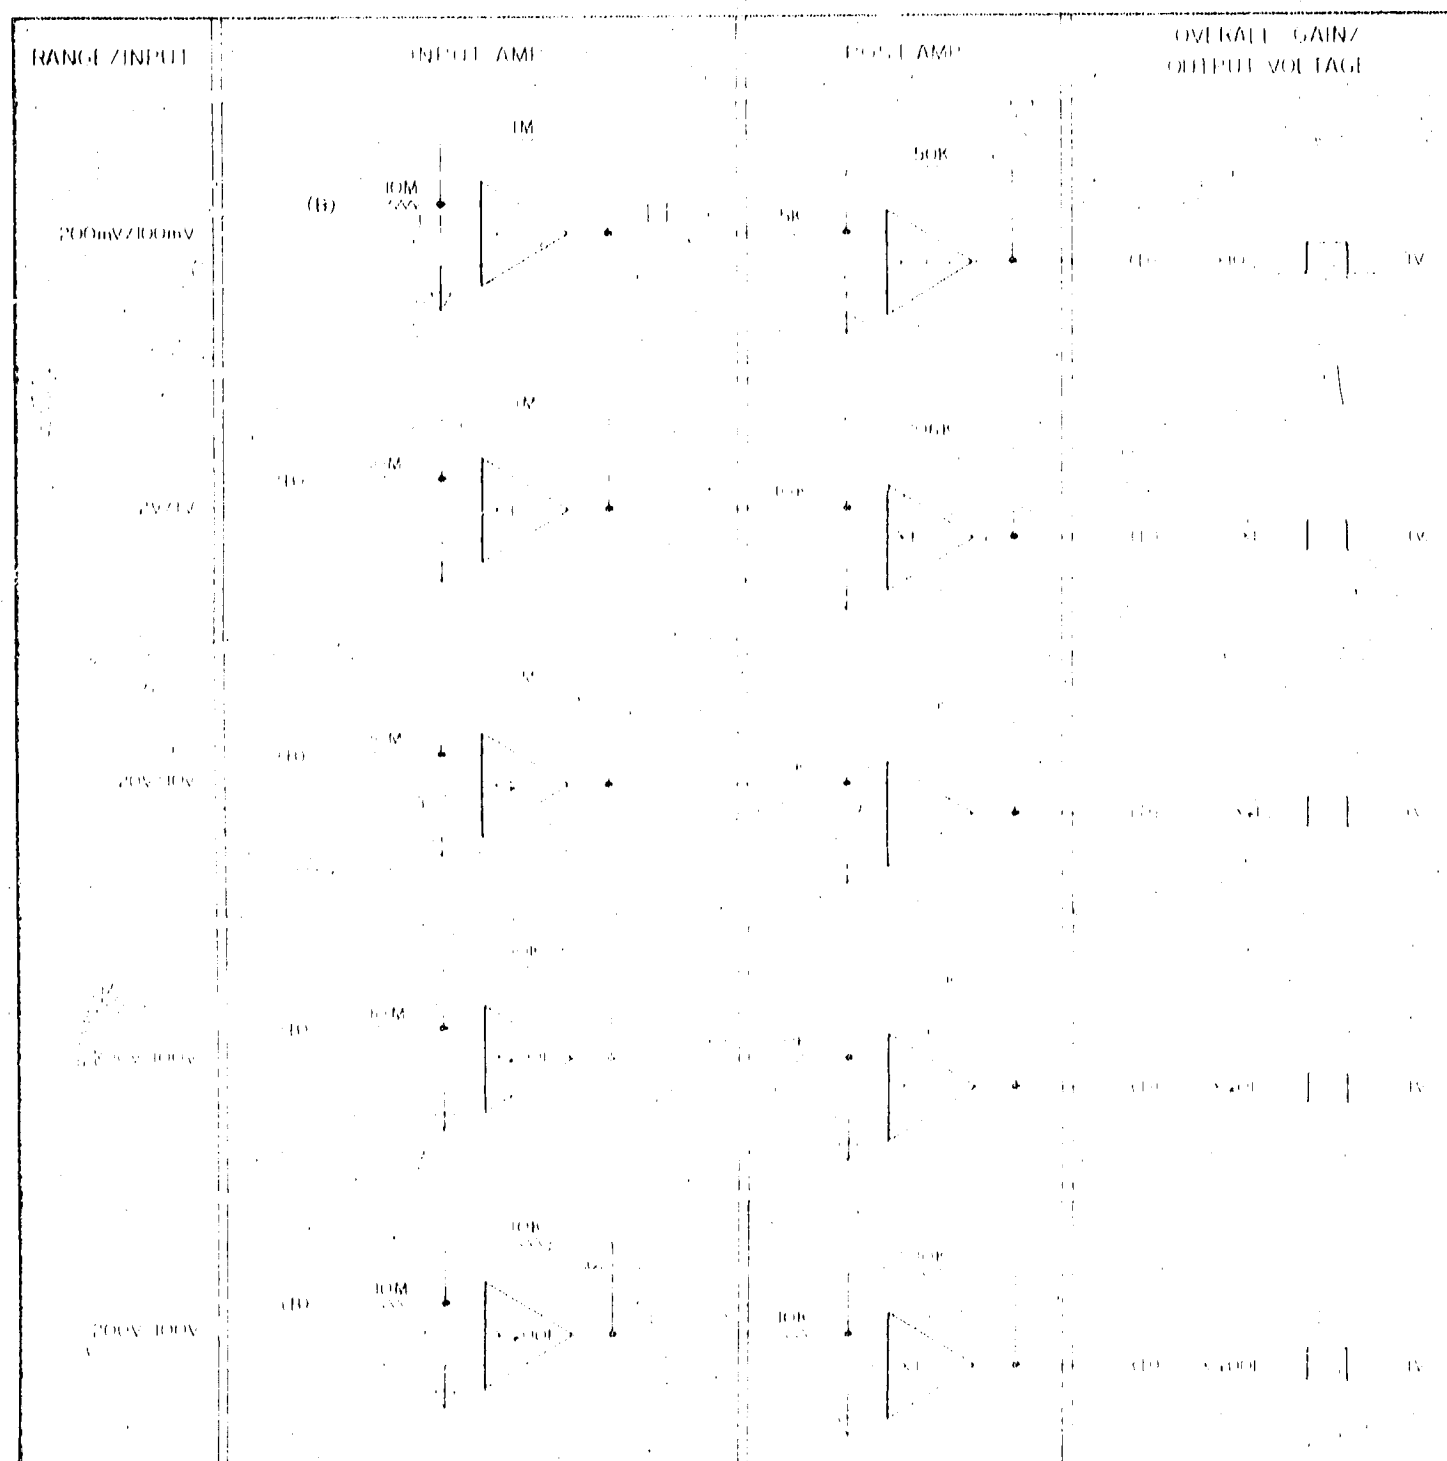

Figure 8-4. DC Gain Configuration.
condition. The input voltage (B) must obviously be amplified or attenuated to keep the voltage at (D) within these limits. This is accomplished by the combined gains of the Input and Post amplifiers. Figure 8-4 shows the gain configuration for each of the five dc ranges.
8-31. The input voltage at (B) is applied to the input amplifier during integrator run up only. Consequently, the input voltage to the Input Amplifier is a square wave as shown in Figure 8-4.